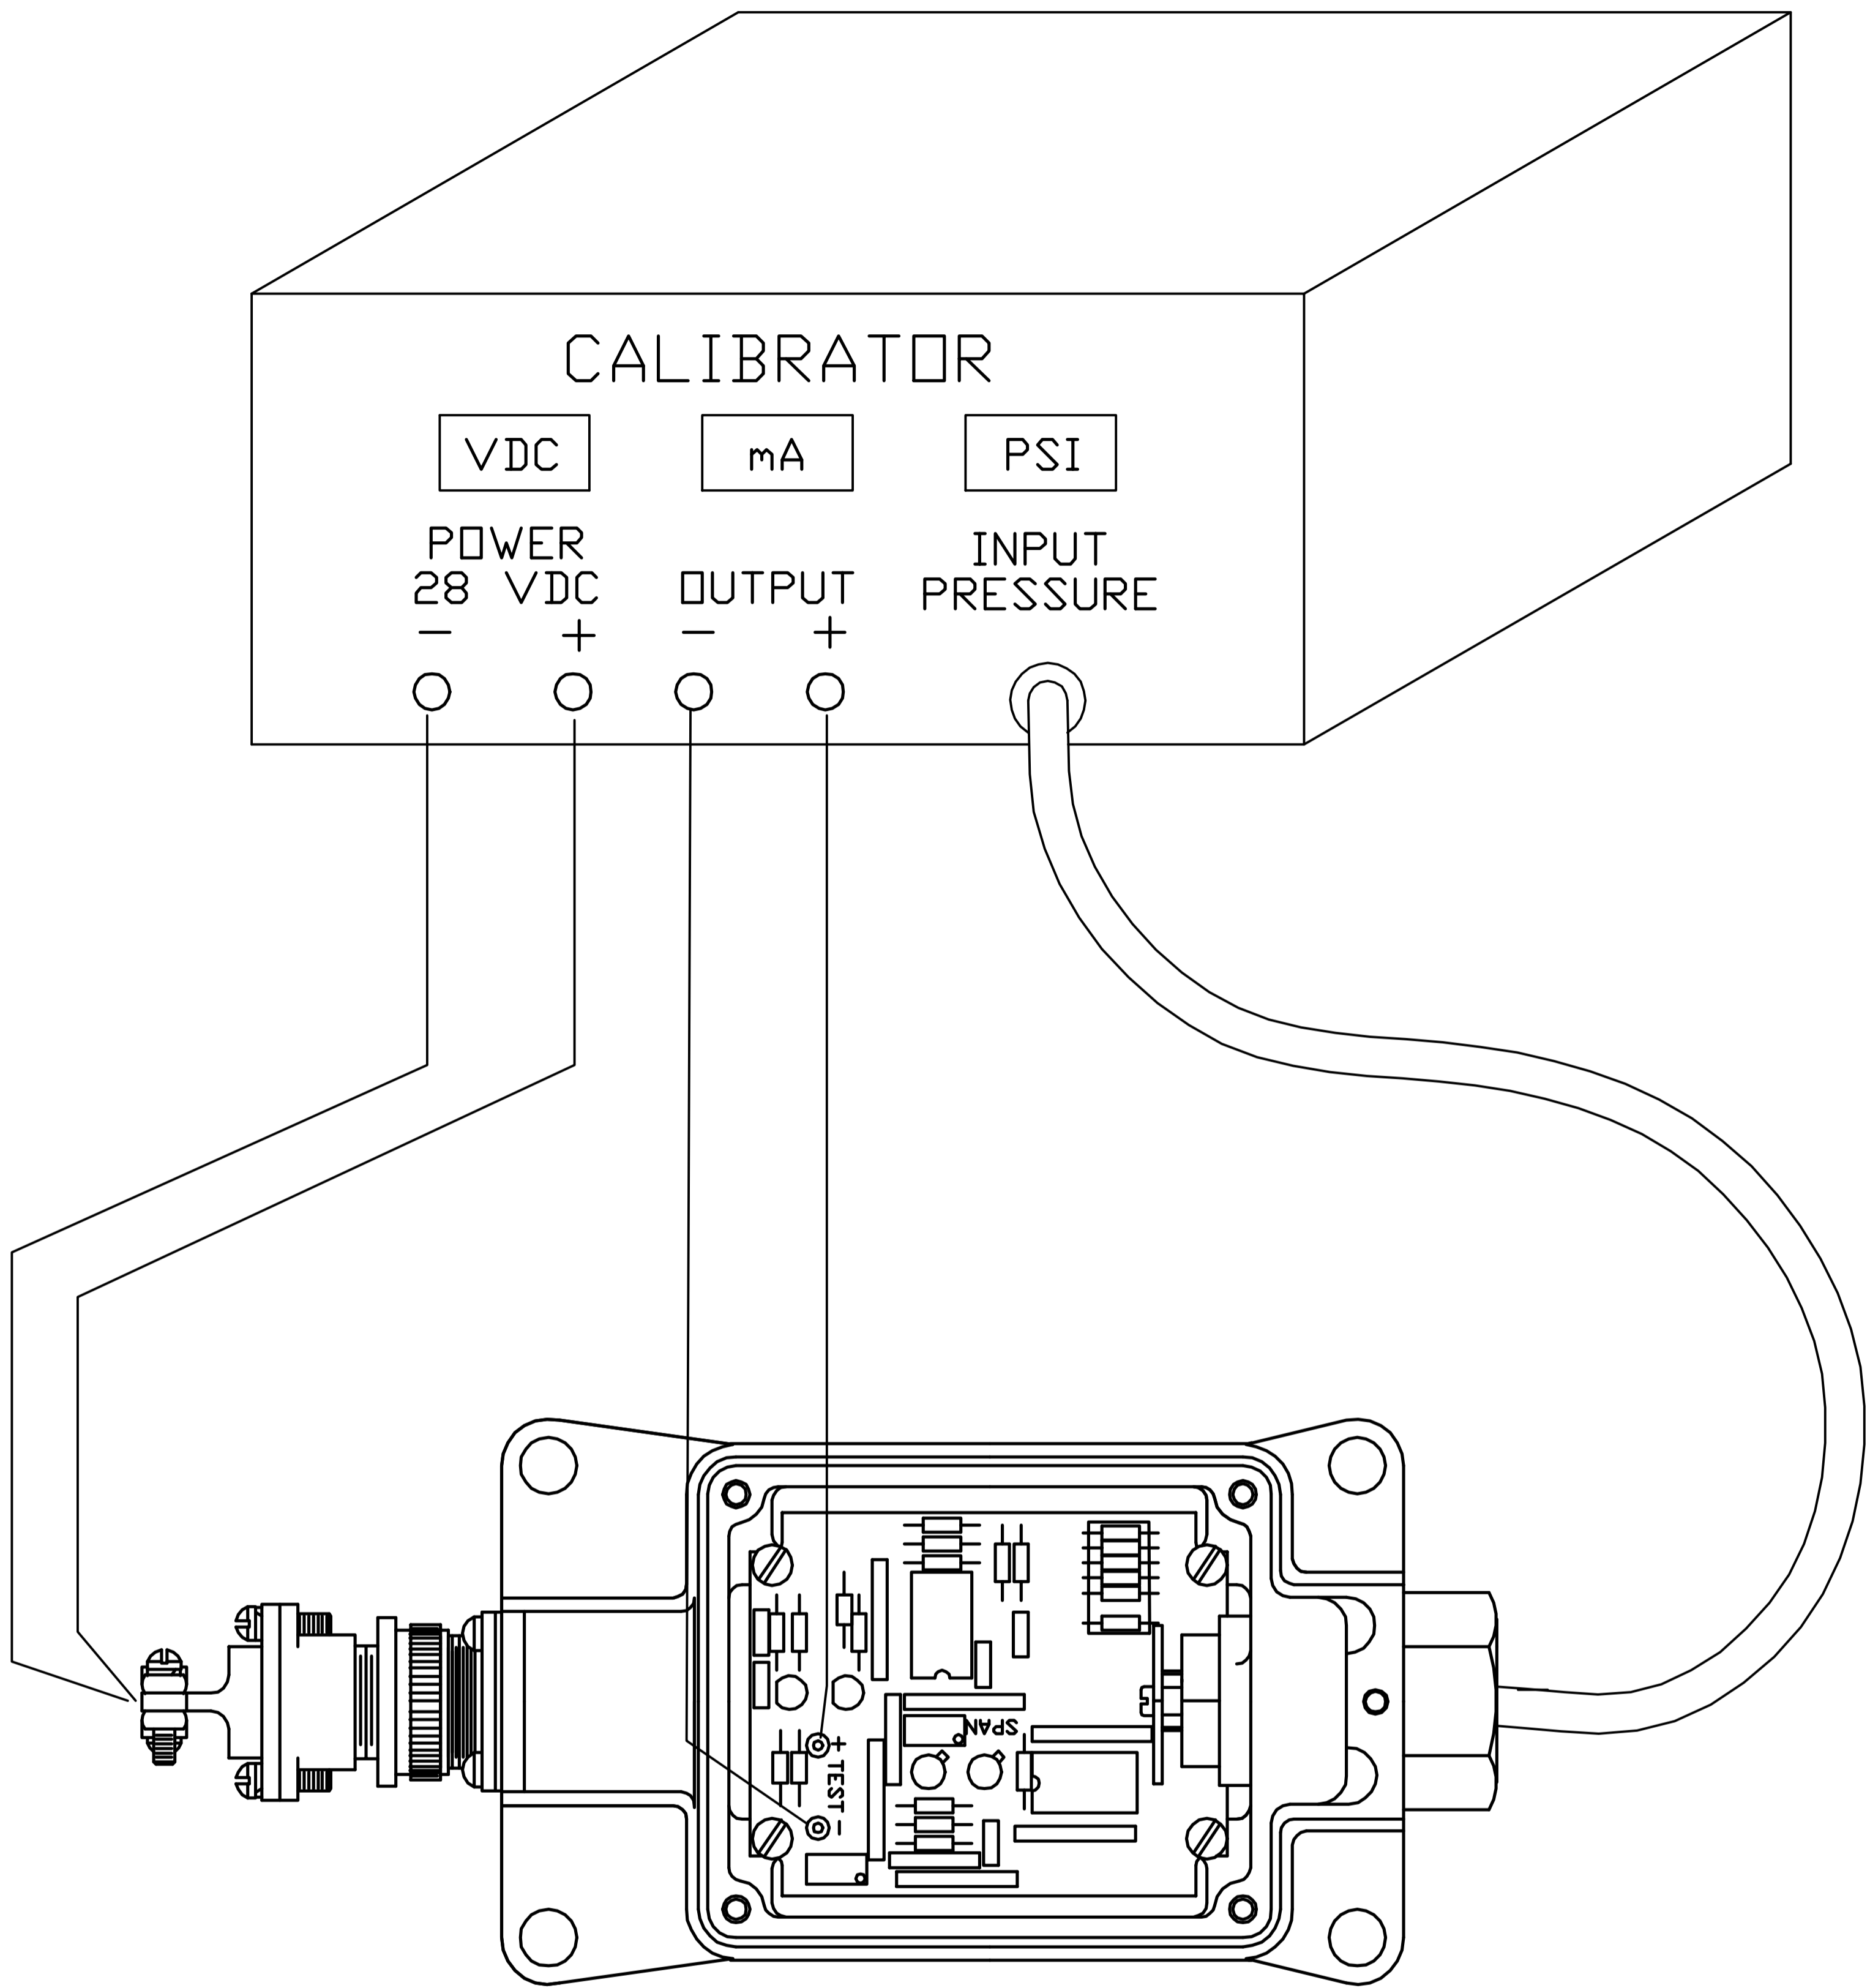

FIGURE 6-1. CALIBRATION TEST SET-UP
- f) If the range is exceeded within the overpressure range of MIL-P-24212C (SH), verify the zero calibration in accordance with step d. before proceeding. If the range is exceeded beyond the overpressure specification, unit may not be serviceable. Verify calibration before returning to service .
- g) Refer to the pressure transducer's nameplate to determine the pressure range. Attach the calibration system and pressure source to the pressure connection in accordance to the calibration system technical manual. Adjust the pressure source to 100% of the pressure transducer's range (Figure 6-1).